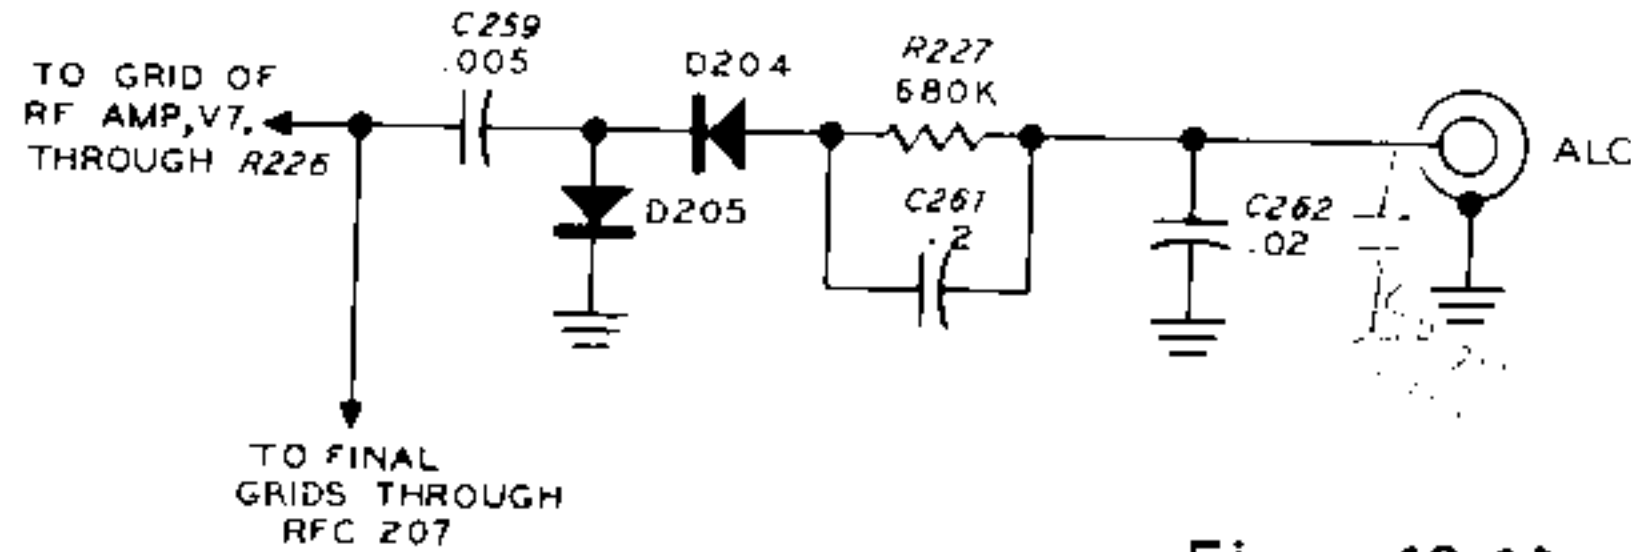

Figure 12-10
**ALC CIRCUIT (Figure 12-10)**